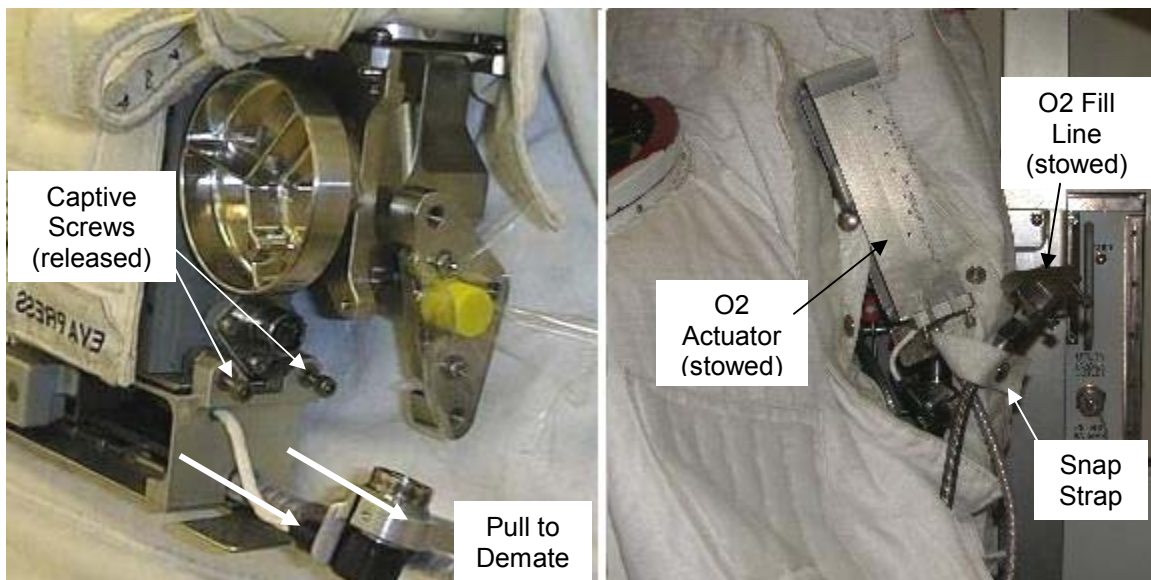

Figure 2.- O2 Actuator Removal and Stowage.
6. Captive screws (two) ↺ using 7/64" Hex Head Driver and 1/4" Driver Handle to demate O2 actuator from DCM as shown in Figure 2.
7. Restrain O2 actuator using snap strap on left PLSS TMG as shown in Figure 2.